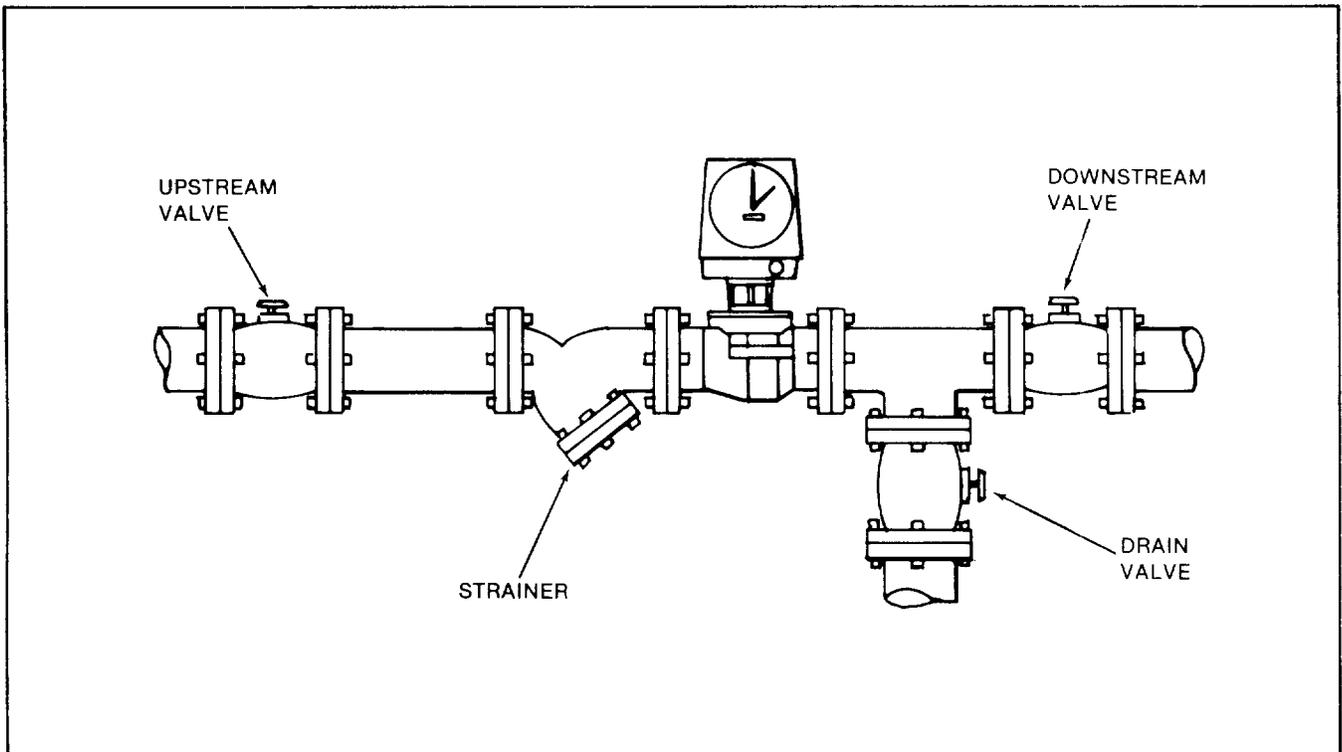

Figure 2-1. Typical Turbo Meter Installation with Flushing System
5. To permit periodic cleanout of the meter and to provide a convenient means of stopping fluid flow during maintenance, it is recommended that a flushing system be incorporated into the facility piping arrangement (see Figure 2-1).
2. If the facility piping arrangement includes a flushing system (See Figure 2-1), shut off liquid flow to the meter and flush the interior of the meter with clean water or other appropriate cleaning fluid to remove any buildup of internal deposits or corrosion.
Badger turbo meters can be serviced without removing the meters from the system. A typical service (See Figure 2-1) is equipped with drain and piping valves. To inspect or replace component parts of the head assembly, close the upstream and downstream valves. If the installation is equipped with an inlet and drain valve for flushing the meter, open the drain valve to relieve pressure from within the meter. However, if the meter piping is not equipped with a drain valve, proceed as follows to relieve pressure within the meter: